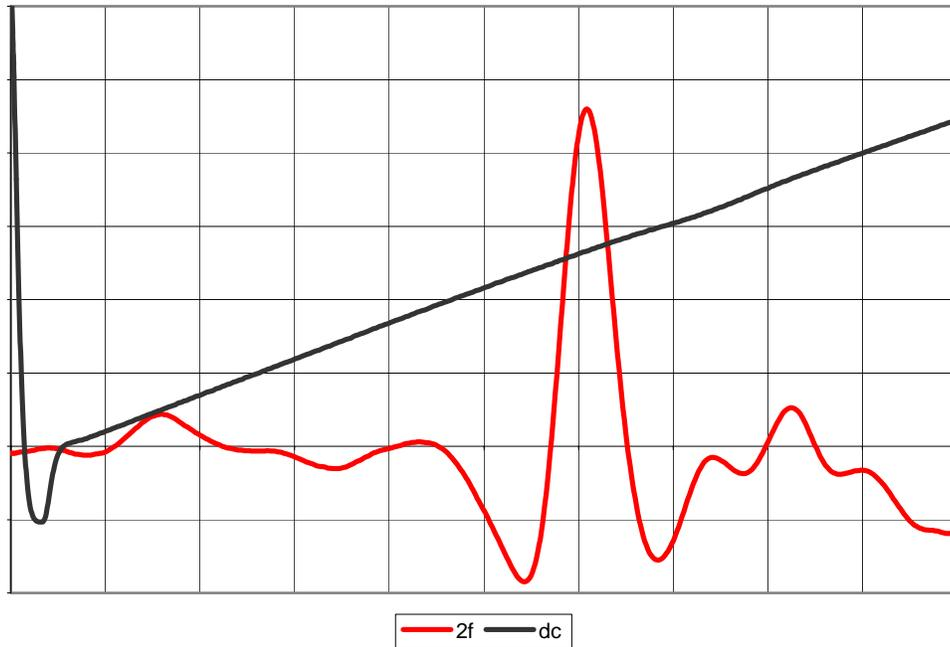

Figure 19: Mode 6 data dump displayed in graphical format using Excel
6. Choose the **X-Y (scatter)** chart type and click **Finish**. A graph of the spectrum displays. If the lower-red curve is very flat, double click on it, select the **Axis** tab, and select **Plot series on Secondary Axis** (see **Figure 19** on page 41).